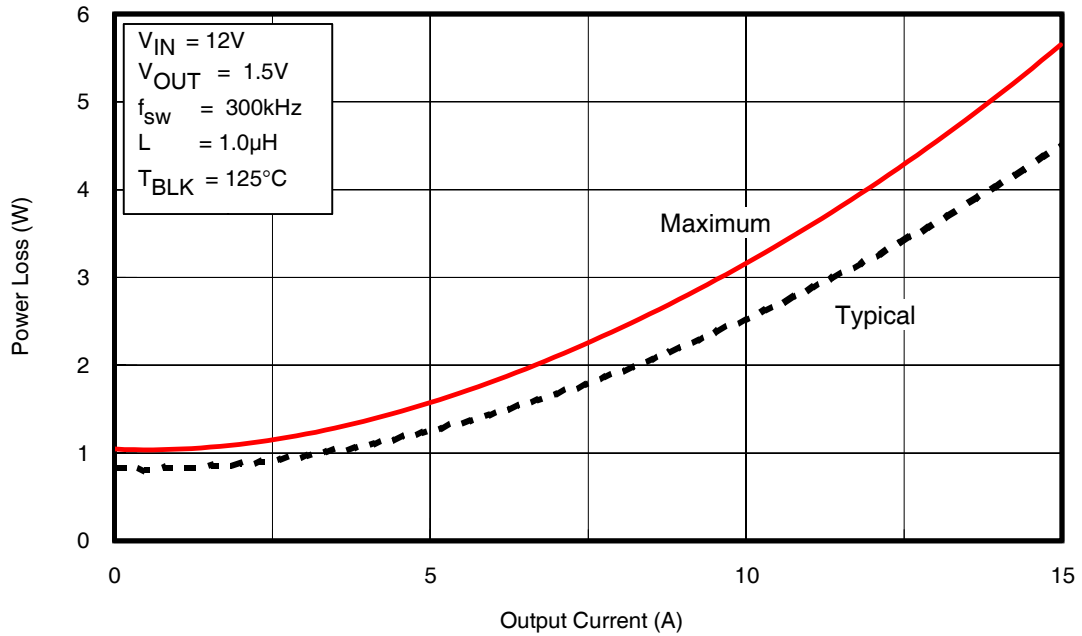
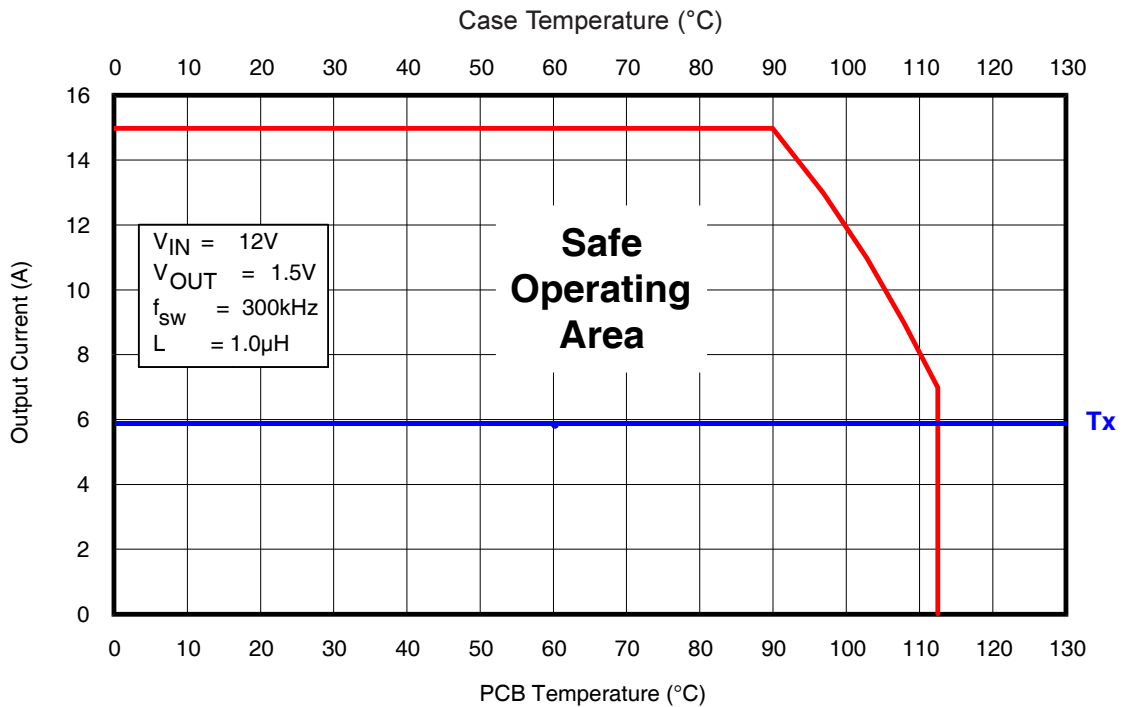
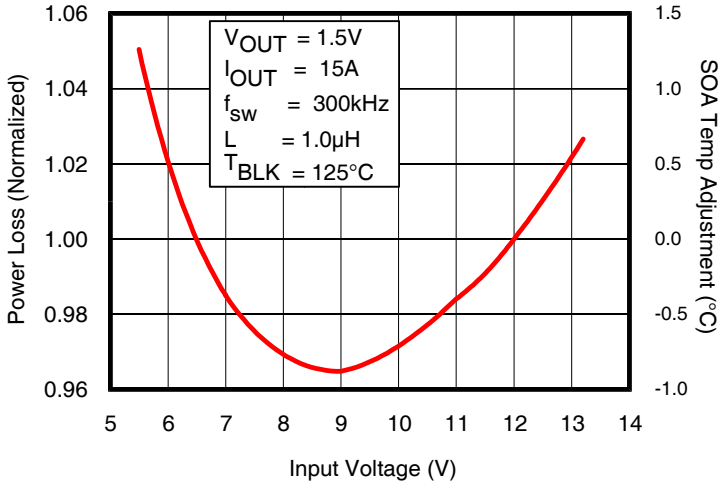

Fig. 2: Power Loss vs. Current
Fig. 3: Safe Operating Area (SOA) vs. T_{PCB} & T_{CASE}
Fig. 4: Normalized Power Loss vs. V_{IN}
To make adjustments to the power loss curves in Fig. 2, multiply the normalized value obtained from the curves in Figs. 4, 5, 6 or 7 by the value indicated on the power loss curve in Fig. 2. Then if multiple adjustments are required, multiply all of the normalized values together, then multiply that product by the value indicated on the power loss curve in Fig. 2. The resulting product is the final power loss based on all factors. See example no. 1.
To make adjustments to the SOA curve in Fig. 3, determine your maximum PCB Temp & Case Temp at the maximum operating current of each iP1203. Then, add the correction temperature from the normalized curves in Figs. 4, 5, 6 or 7 to the T_X axis intercept (see procedure no. 2 above) in Fig. 3. When multiple adjustments are required, add all of the temperatures together, then add the sum to the T_X axis intercept in Fig. 3. See example no. 2.
- (Fig. 2) Maximum power loss = 4.1W
- (Fig. 4) Normalized power loss for input voltage \approx 1.025
- Output1 (Fig. 4) Normalized SOA Temperature for input voltage $\approx +0.7^{\circ}C$